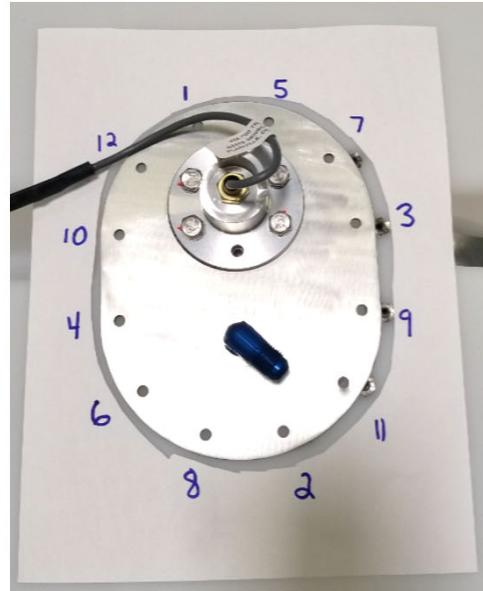

Figure 13 – Fuel Tank Access Plate Gasket & Torque Sequence
- i. Torque bolts 25-30 in-lb in a star shaped pattern as shown in Figure 13.